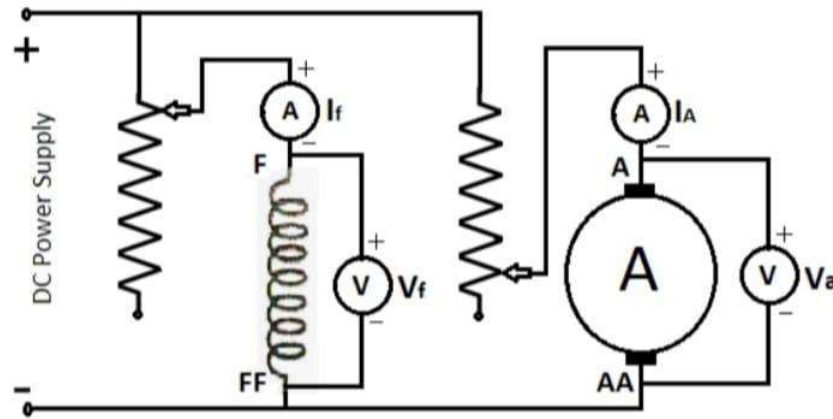

Fig 1: Connection Diagram for Armature voltage control and field control method of speed
1. Firstly we Ensured that no load is connected to the motor and made connections as shown in fig 1 without powering the circuit.